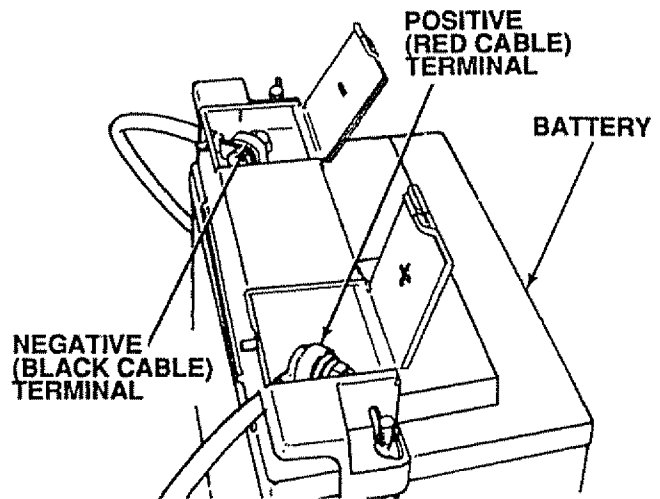

FIGURE 20
- Connect each end of the **RED** cable to the **POSITIVE (+)** terminals of each battery (taking care not to short against chassis). (Fig. 20)